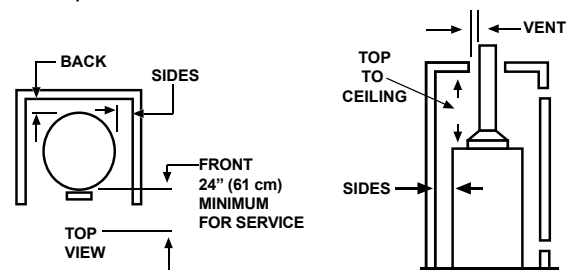

FIGURE 4.
- Figure 4 may be used as a reference guide to locate the specific clearance locations. A minimum of 24 inches (61 cm) of front clearance should be provided for inspection and service.